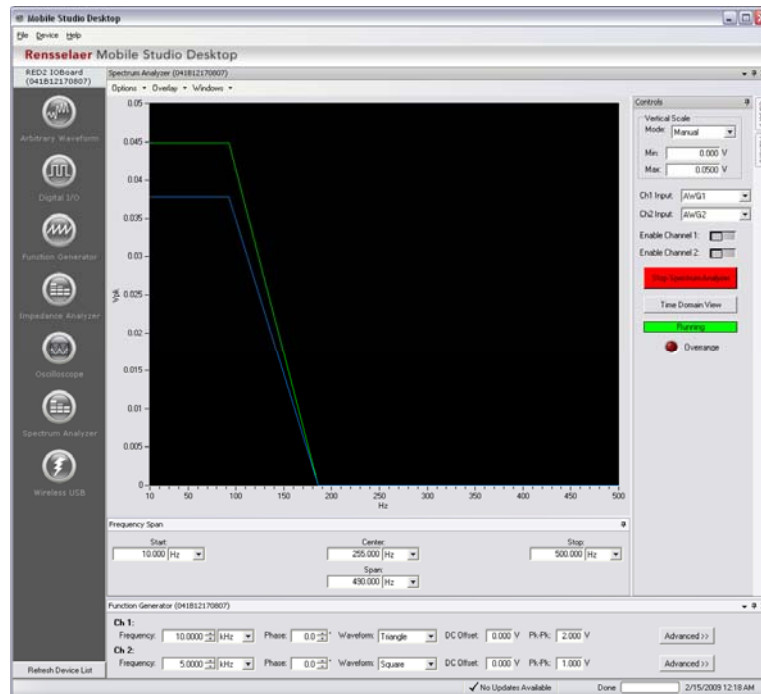

Figure 4-2: Analyzing Signals
- 4) Click “Start Spectrum Analyzer” to begin analyzing the signals in the window, shown in Figure 4-2 below. The input signals can be manipulated simultaneously by opening the *Function Generator* or *Arbitrary Waveform Generator* and changing the parameters.